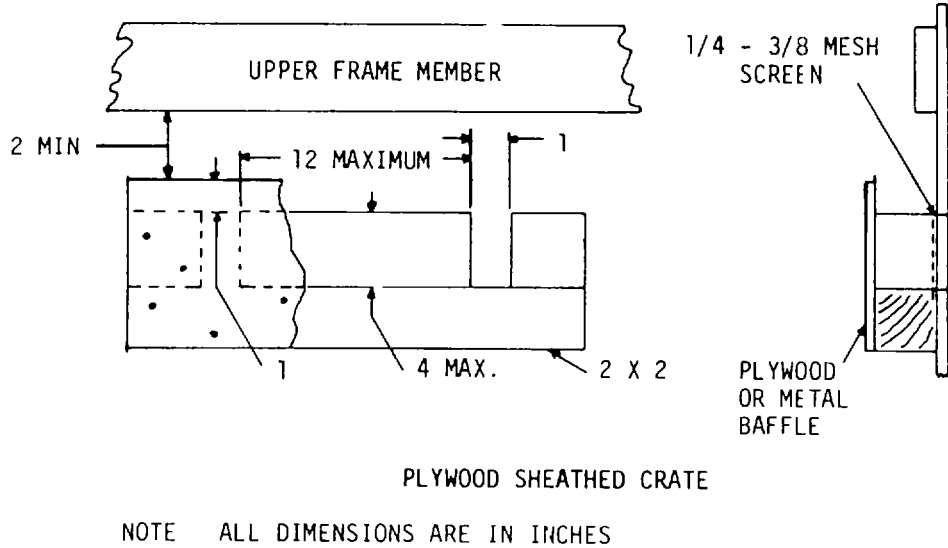

Figure D-3-12. Crate Ventilation (Inside View).
i. Ventilation. All crates shall be provided with ventilating holes or slots which shall be located at each end or at ends and sides of lumber and plywood sheathed crates, or around the perimeter of plywood and lumber-sheathed crates. These ventilating holes or slots shall be located immediately below the top frame member and be provided with a baffle as shown in figure D-3-12 when slots are used in plywood sheathed crates or when holes are in clusters in lumber-sheathed crates. Single holes drilled without baffles shall be sloped at 45° to drain outward. No holes or slots shall be cut in any frame member.